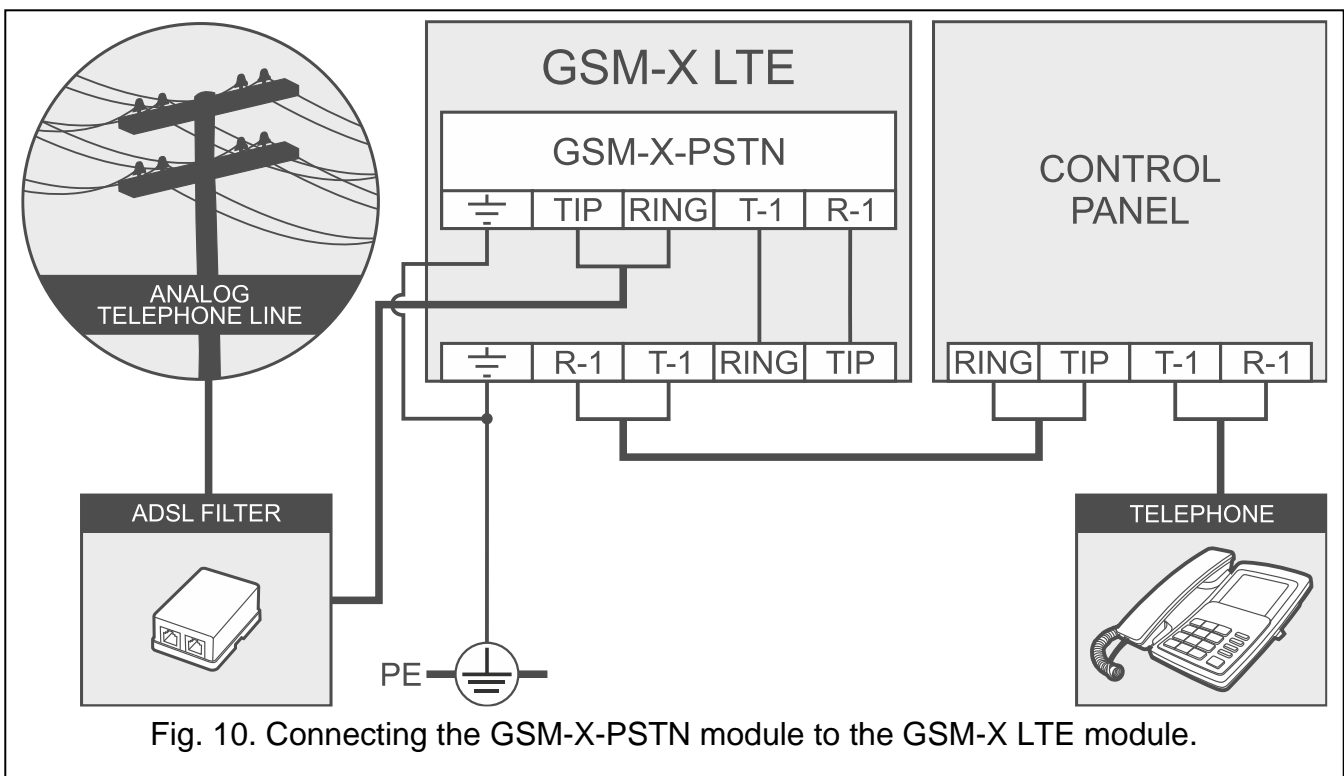

Fig. 10. Connecting the GSM-X-PSTN module to the GSM-X LTE module.
4. Connect terminals T-1 and R-1 of the module to terminals TIP and RING of the GSM-X LTE module (Fig. 10).
5. Connect the incoming telephone line to terminals TIP and RING. If the ADSL service is used on the premises, the module should be connected after the ADSL filter (Fig. 10).
6. Connect terminals T-1 and R-1 of the GSM-X LTE module to terminals TIP and RING of the control panel (Fig. 10). Any telephone located on the premises can be connected to terminals T-1 and R-1 of the control panel.
7. Connect terminals $\overline{\text{PE}}$ of the GSM-X LTE and GSM-X-PSTN modules to the protective earth conductor (PE) of the 230 VAC mains (Fig. 10). To make the connection, use a wire with $\geq 0.75 \text{ mm}^2$ cross-section. Never connect the $\overline{\text{PE}}$ terminal to the neutral conductor (N).